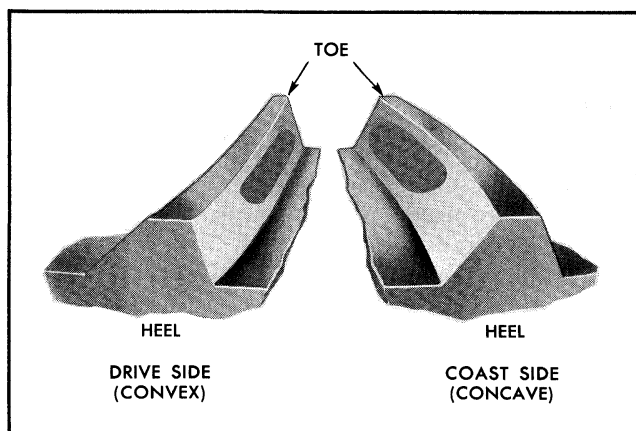

Fig. 4-17 Desired Tooth Contact Under Light Load
5. Observe pattern on ring gear teeth and compare with Fig. 4-17.
When "load" on ring and pinion gear is increased, such as when car is accelerated from standstill or from normal drive, the tooth contact will tend to spread out, and under very heavy load will extend from near toe to near heel. The entire contact also tends to shift toward heel under increasingly heavier loads and will become somewhat broader with respect to tops and bottoms of teeth. The patterns obtained by red lead tests, dependent upon degree of "loading", approximate a normal light load, and for this reason will not cover the entire face of the ring gear, but will extend only about halfway (Fig. 4-17). The important thing to note is that the contact pattern is centrally located up and down on the face of the ring gear.